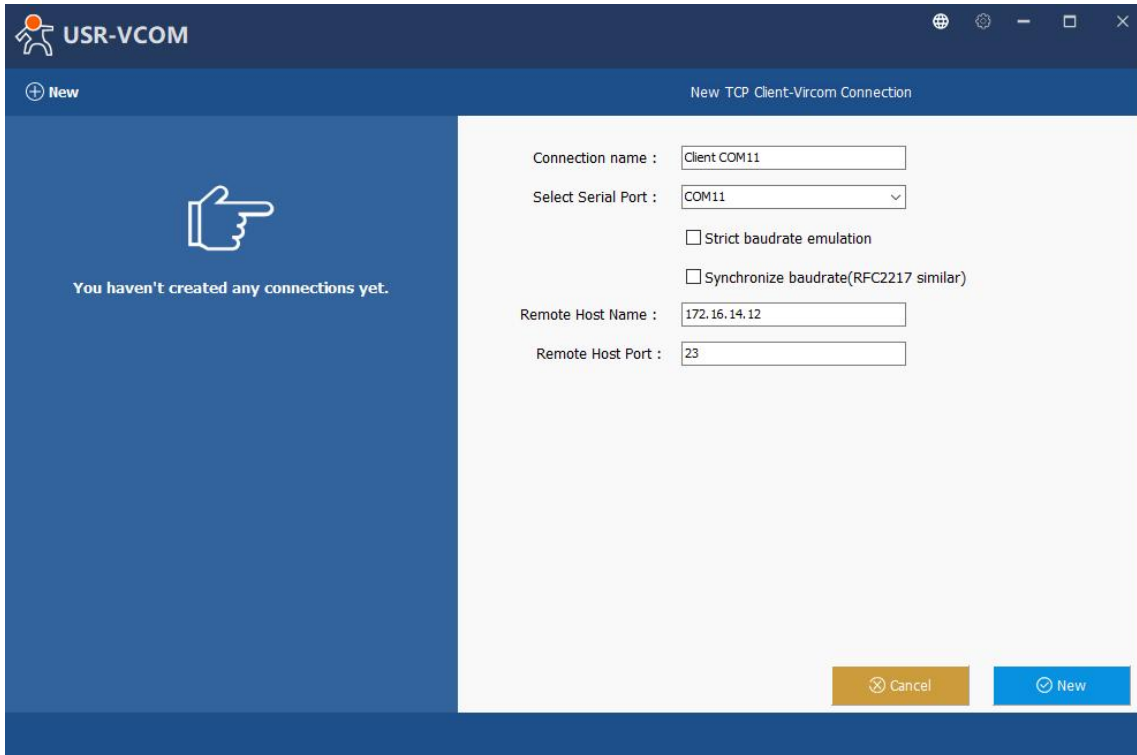

Fig. 60 Virtual COM port mapping
3. After selecting the virtual COM ports, please enter the IP Address of the gateway with the specified Port Number. The Port Number here is the Local Listening Port for the gateway which is specified in the Local Port field of Fig.60. In this case, IP address of USR-M100 is 172.16.14.12.